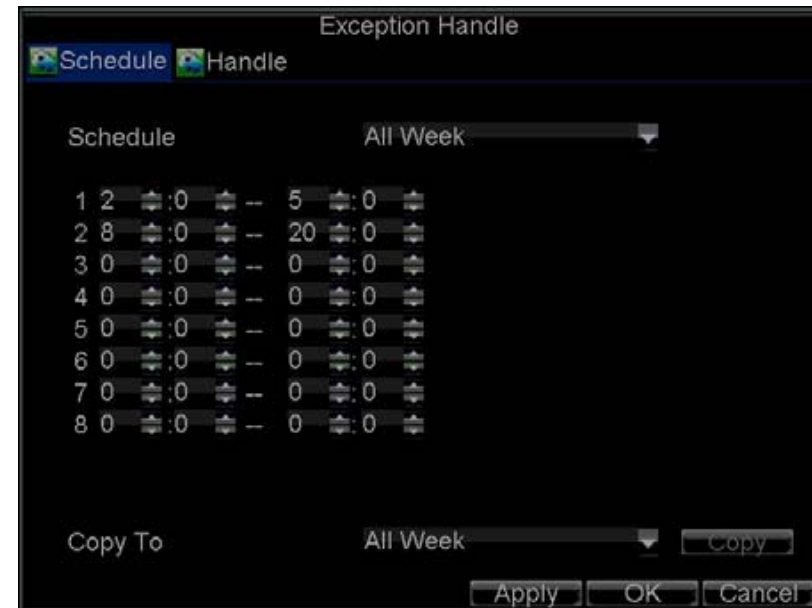

Figure 9.16. Schedule Settings for Video Loss Detection
- 5) Click the *Handle* button to enter the Exception Handle menu, shown in Figure 9.16.